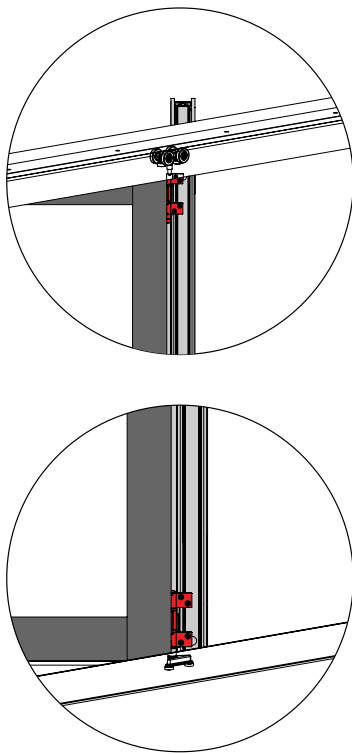

FIG 39
- Once the Node 2 hinges are installed, begin installation of the CIC Top Hinge. **[FIG 39]**